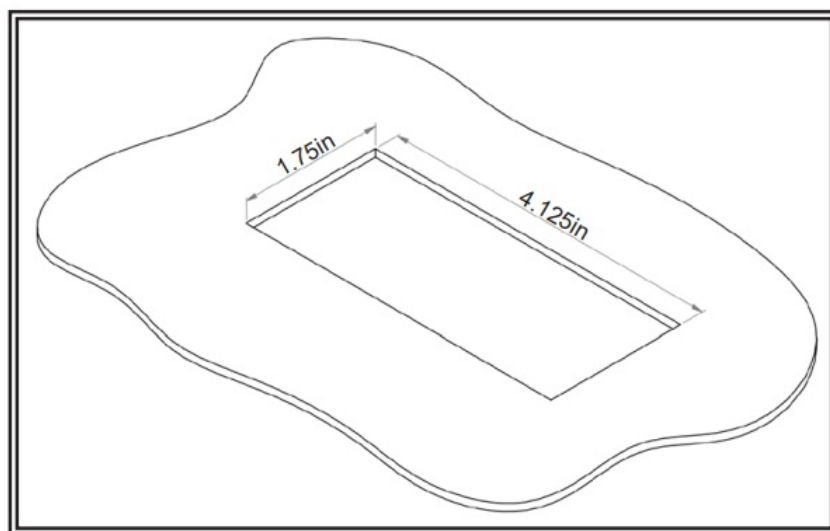

Figure 1
Step 3. Cut a rectangular hole in the headliner (4.125"x1.75"). See Figure 1. Note: Carefully route wiring under the bracket to prevent damage.